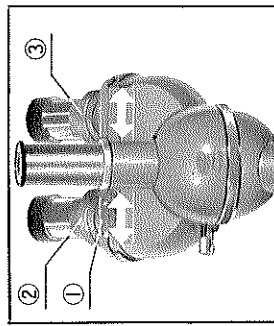

Fig. 7
- (1) Hold the right and left eyepiece tubes with both hands and push the tubes together, or pull them apart laterally, whichever is required, while looking through the eyepieces with both eyes, until perfect binocular vision is obtained. Memorize your interpupillary distance setting on the scale ①. (Fig. 7)
- (2) Rotate the diopter ring ② on the right eyepiece tube to match the scale to your interpupillary distance you obtained from the scale.
- (3) Look at the image through the right eyepiece with your right eye and focus on the specimen with the focus adjustment knobs.
- (4) Next, look at the image through the left eyepiece with your left eye and rotate the diopter ring ③ to focus on the specimen without using the focus adjustment ring.